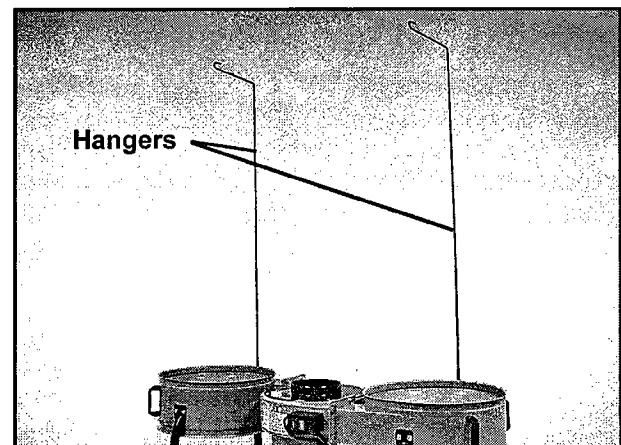

FIGURE 12
10. Place the two hanger assemblies into the hanger brackets on the back of the housings, as shown in Figure 12. The "hooks" should face to the front.